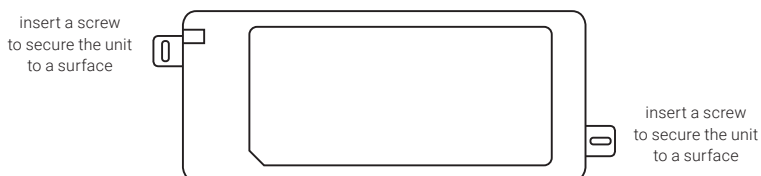

FIGURE 3-1. LOCATION OF METAL FEET ON THE POWER INJECTOR
1. Using screws, affix the metal feet on the front and/or rear to a flat surface such as a table or wall. See Figure 3-1.